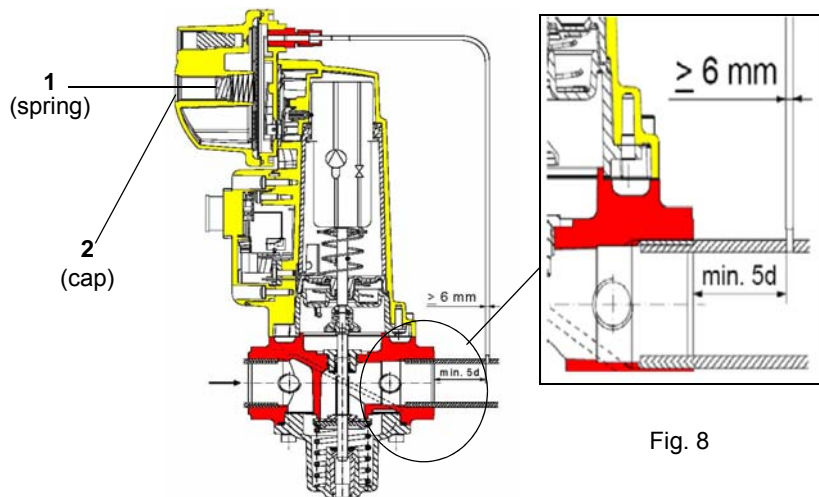

Fig. 8
**Caution:** the SKP2 diaphragm D must be vertical (see Fig. 8).